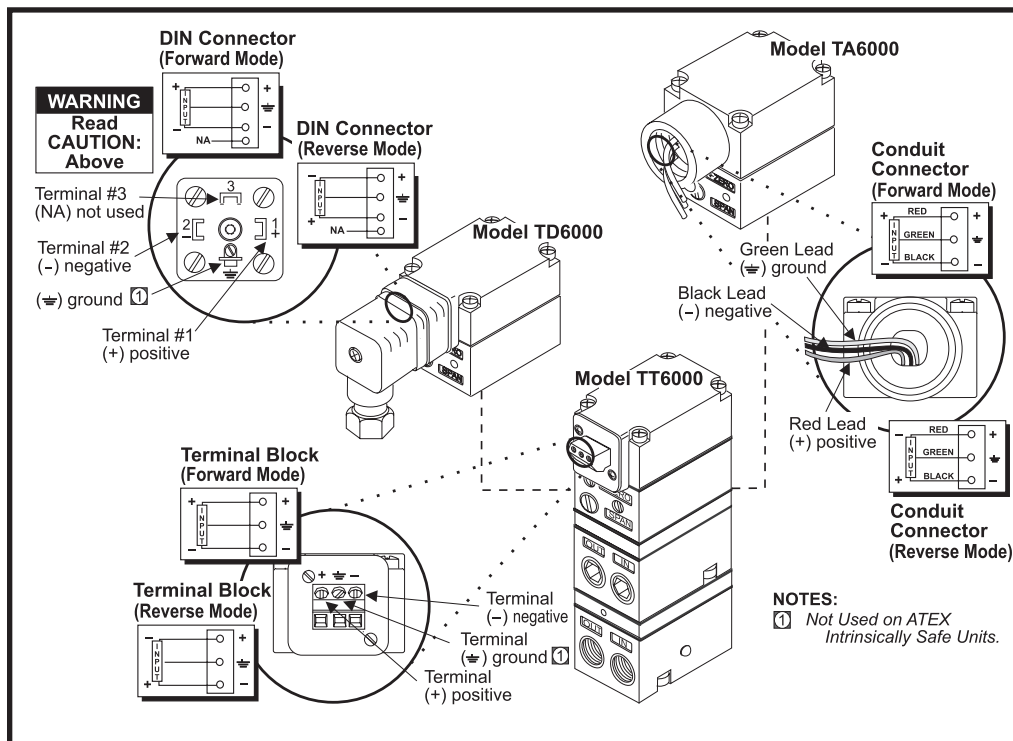

Figure 9
Make connections as shown in Figure 9.
1. Connect the input signal to the transducer as shown in Figure 9.
5. Connect the input signal to the transducer as shown in Figure 9.